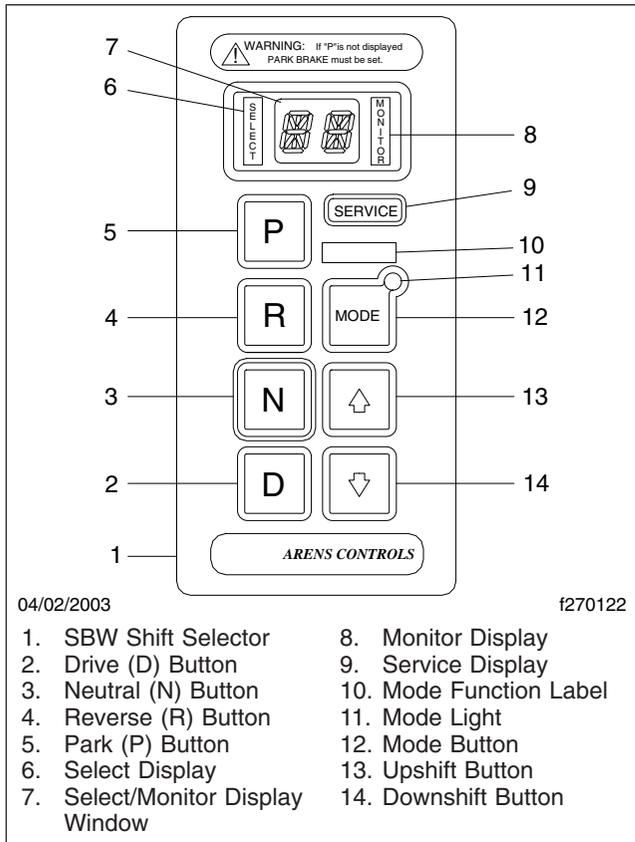
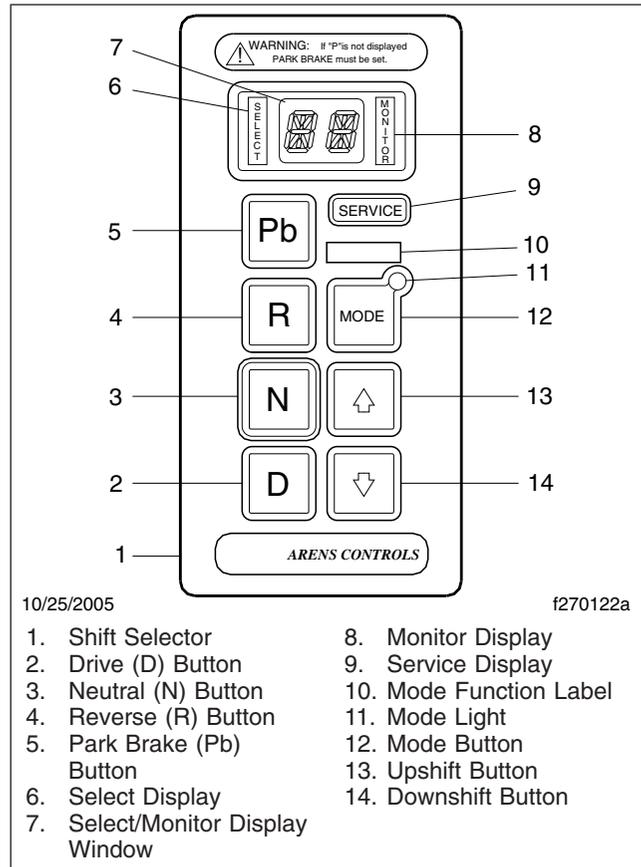

Fig. 8.30, SBW Shift Selector (1000/2200/2350 series)
Fig. 8.31, SBW Pushbutton Shift Selector with Park Brake (Pb) Button (2100 series)
The 1000/2200/2350 series transmission has a park pawl and the SBW selector has a Park (P) position. The 2100 series transmission has a park brake (Pb) button. See Fig. 8.30 and Fig. 8.31.